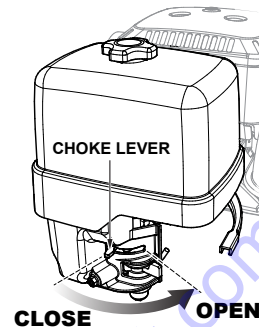

Figure 17. Choke Lever (Open)
7. If the choke lever was moved to the "CLOSED" position to start the engine, gradually move it to the "OPEN" position (Figure 17) as the engine warms up. If the engine has not started, repeat steps 1 through 6.